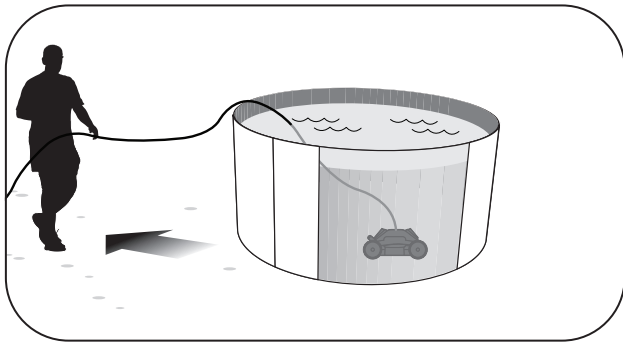

Figure 5. Spread Floating Cable to Prevent Tangling
5. Spread all of the floating cable carefully in the pool, ensuring there are no kinks or coils. Use only as much cable as you need to reach the farthest wall. This can help prevent cable tangling (Figure 5).